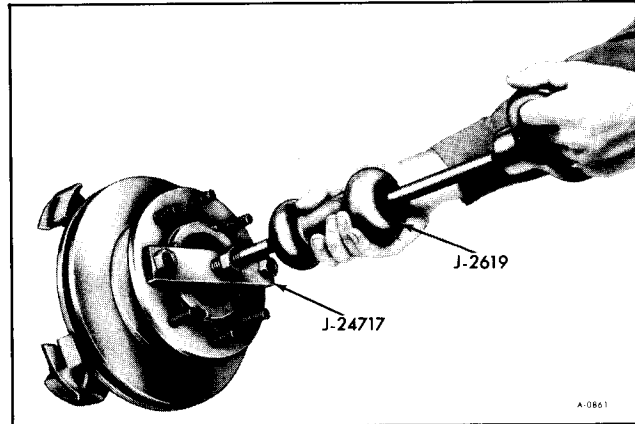

Figure 8—Hub and Disc Removal
9. Position Tool No. J-24717 on hub as shown in Figure 8.
10. Operate slide hammer Tool No. J-2619, until assembly is free of knuckle. See Figure 8.